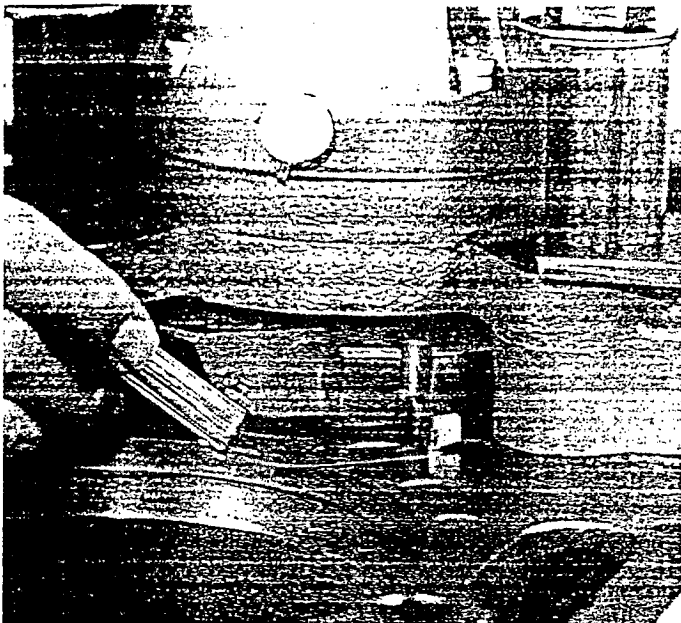

FIGURE 8
7. Place a 0.004 inch feeler gauge between the block and the cutter. Open Feed Valve and lower cutter plate until it rests on the feeler gauge. (See Figure 8.) Tighten swivel pad set screw to secure cutter in place.